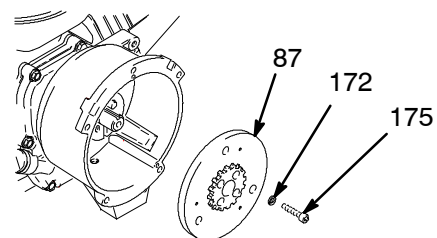

Fig. 7
9. Fig. 7. Use an impact wrench or wedge something between armature (87) and clutch housing to hold engine shaft during removal.
10. Remove four screws (175) and lockwashers (172).
11. Remove armature (87).